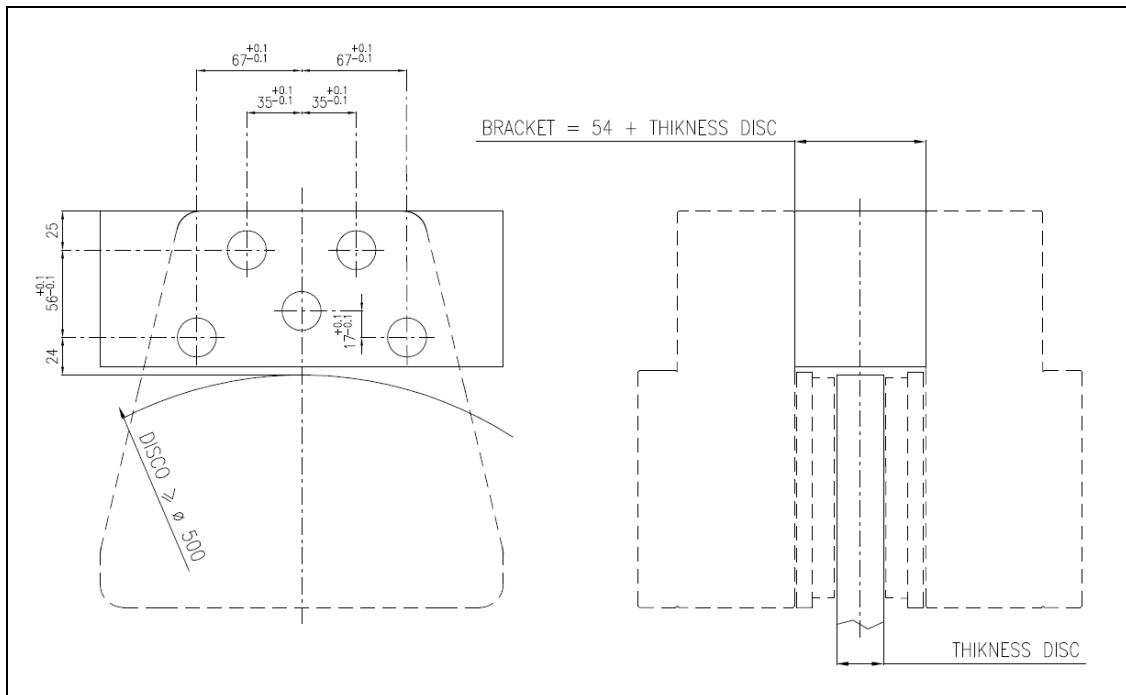

Figure 1
1. The ID 1500 brake must be mounted on a bracket having a thickness of 54 mm plus that of the disc (Figure 1). The brake must be anchored using five M24 class 10.9 screws and tightening torque of 981 Nm.